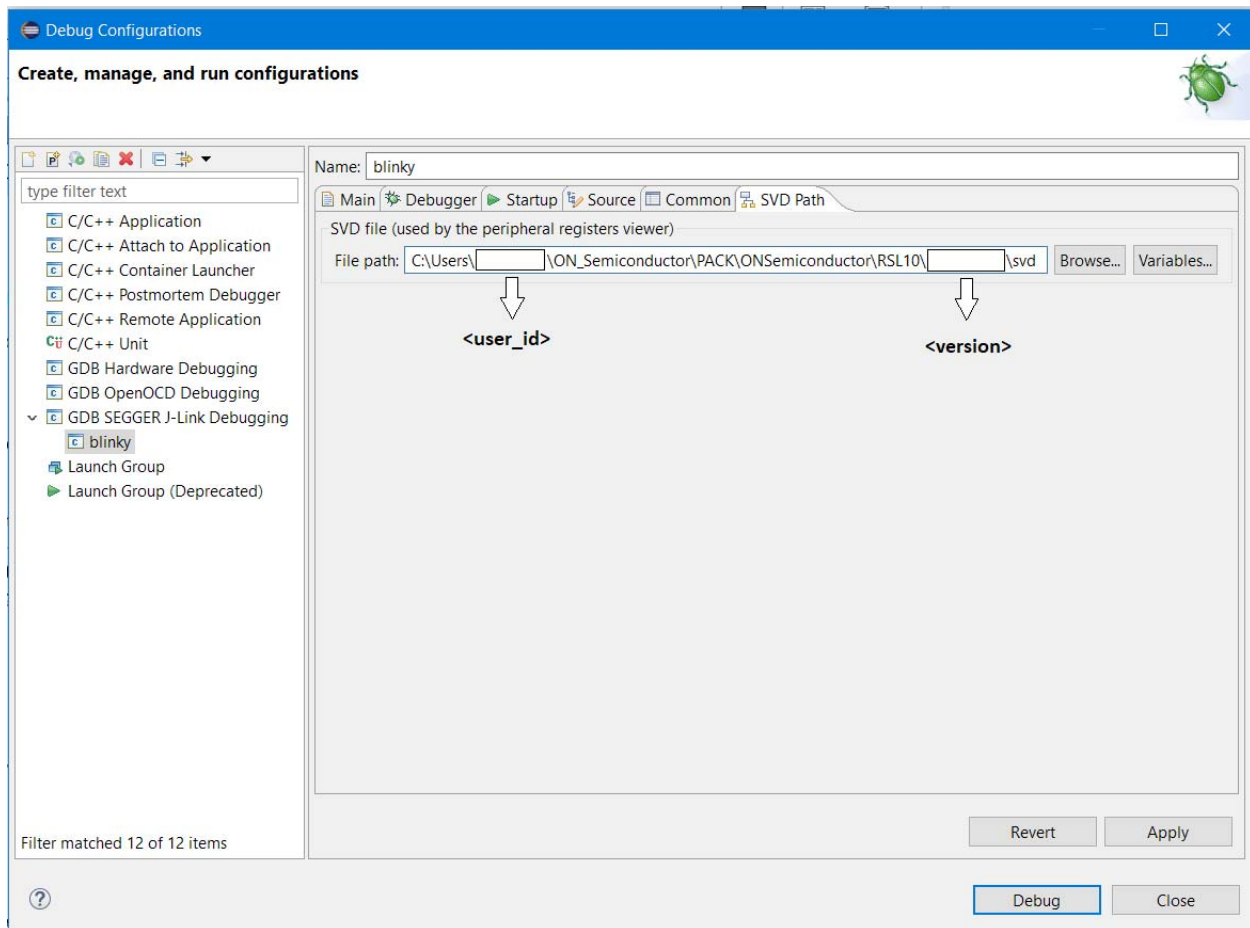

Figure 12. SVD Path Tab Perspective
2. Change to the **SVD Path** tab, and set the path to the *rsl10.svd* file as `C:\Users\\ON_Semiconductor\PACK\ONSemiconductor\RSL10<version>\svd` (see Figure 12). Click **Debug**.